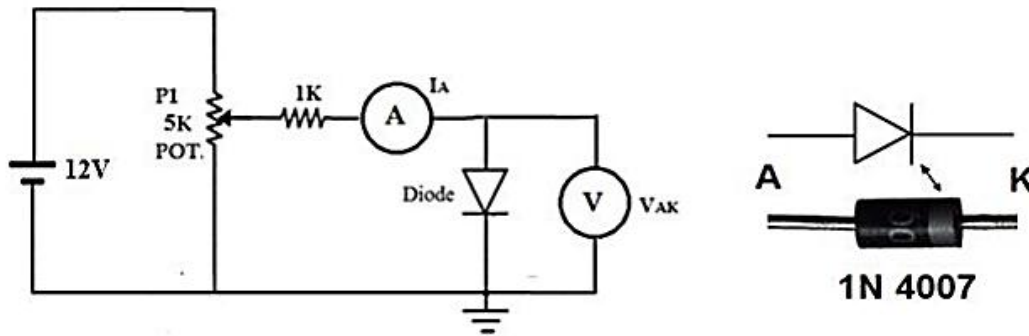
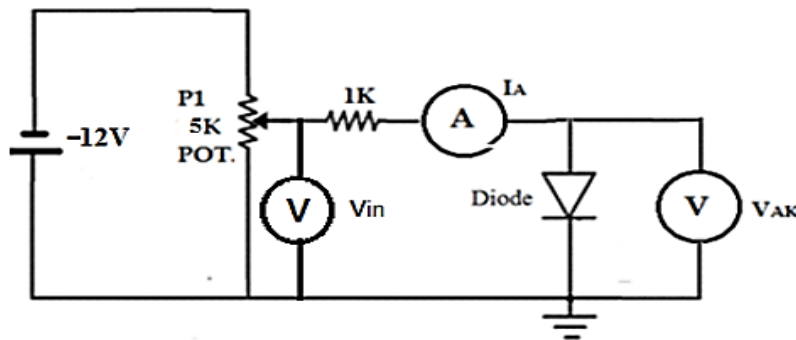

Figure1.2. the practical circuit for forward Diode characteristics.
Figure.1.3. the practical circuit for reverse Diode characteristics.
1. Connect the circuit as shown in Fig. 1.2.
4. By varying the potentiometer P1, increase the value of VAK carefully and in steps as in table (1) and read the anode current IA for each step. Record your results in the table.
7. Connect the circuit as shown in Fig1.3.
8. Repeat steps 2 to 6. Record your results in table (2).